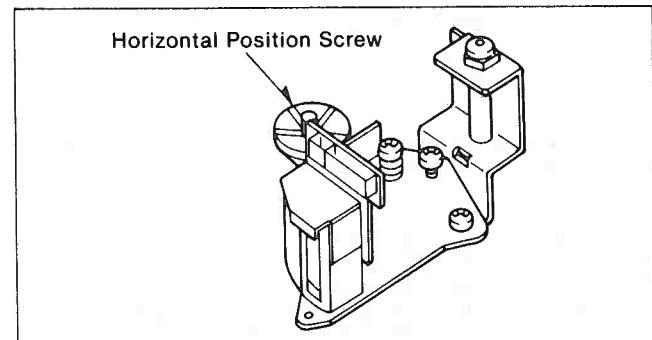
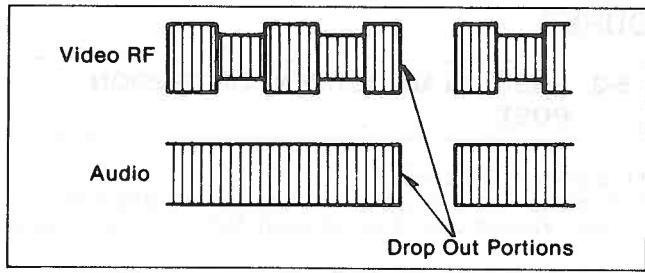

Figure M28
Figure M29 Horizontal Position Adjustment of A/C Head
4. Adjust A/C head horizontal position screw (Figure M28) so that the phase of audio drop out and video RF envelope drop-out becomes the same. (Figure M29)